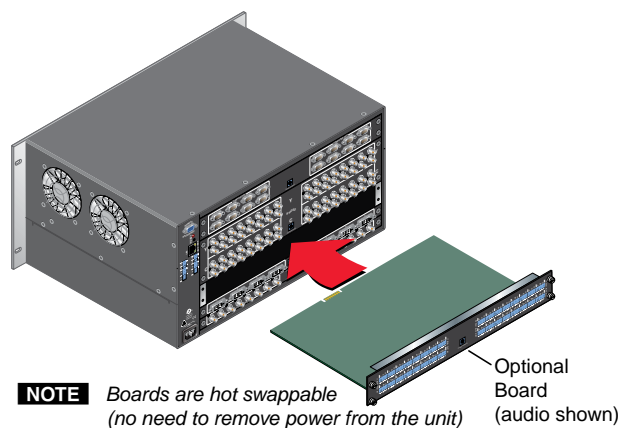

Figure 2-2 — SMX frame rear showing board installation
2. When ready, remove the board from the anti-static bag, taking care not to touch any of the components on the board. Slide the board into the open rear slot (see figure 2-2), carefully aligning it with the plastic slides in the frame. Push the board firmly into place.